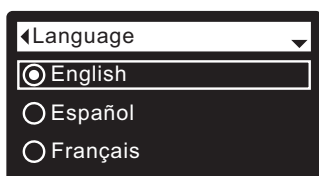

FIG. 50
5. Press the SELECT (O) button to display the Language menu (See Figure 50).
6. If the desired language already has a dot next to it (See Figure 50), go to Step 7. Otherwise, press the DOWN (▼) or UP (▲) buttons to scroll to the desired language, then press SELECT (O) to choose it. The choices are: English, Spanish, French, Italian, German, Dutch, Polish, Russian, Hungarian, Turkish, Lithuanian, Greek, Romanian, Czech, Slovak, Bulgarian, Serbian or Croatian.